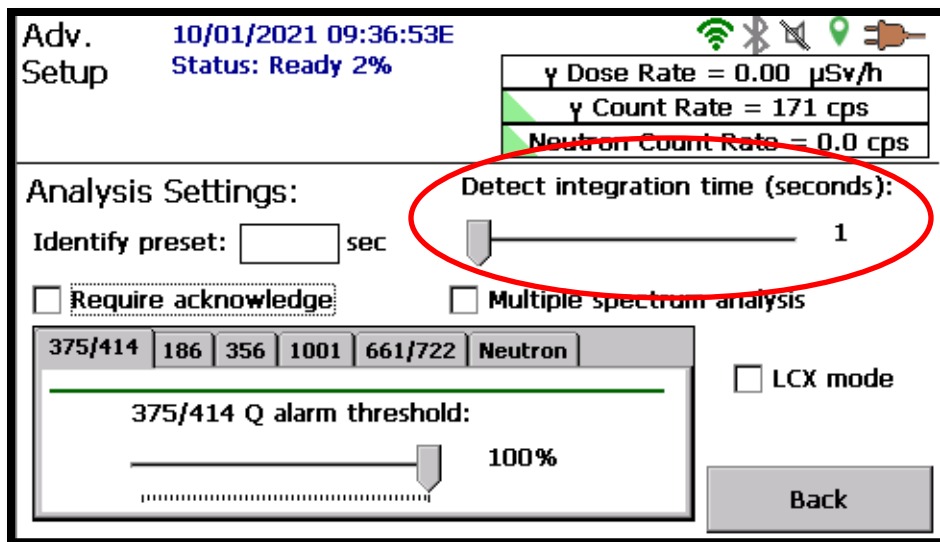

Figure 58. Detect Mode Integration Time
- From the Advanced Setup screen, tap **Analysis** to open the page shown in Figure 58.